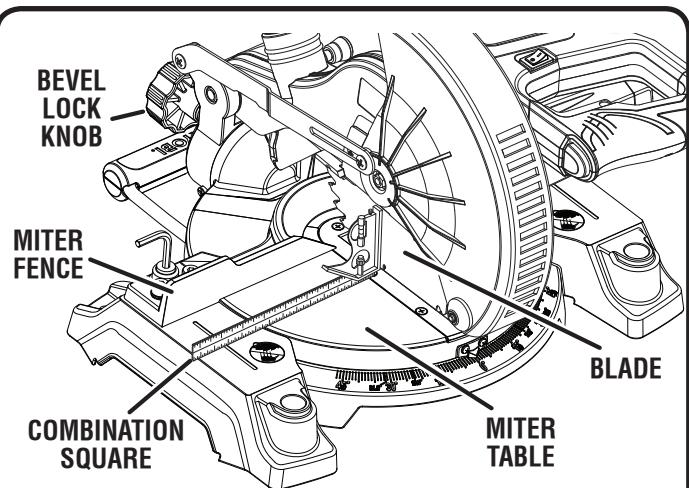

Fig. 20
See Figures 20 - 23.
- The edge of the square and the saw blade should be parallel as shown in figure 20.